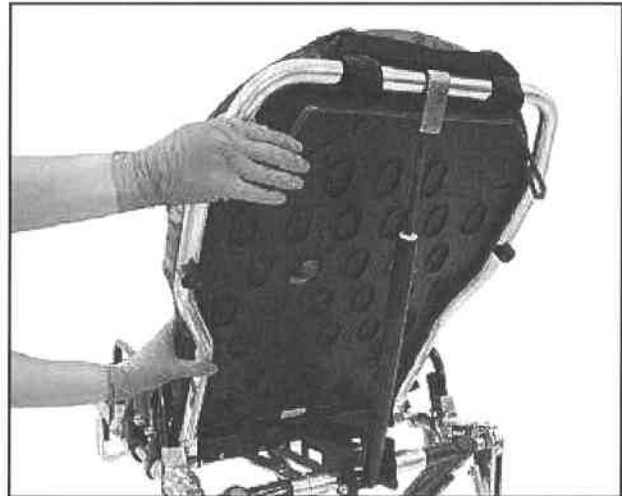

Figure 12 - Using the Backrest
- **Use:** Press the red control handle toward the backrest frame to unlock the backrest (Figure 12), then raise or lower the backrest to the desired position. Release the control handle to lock the backrest at the new position.